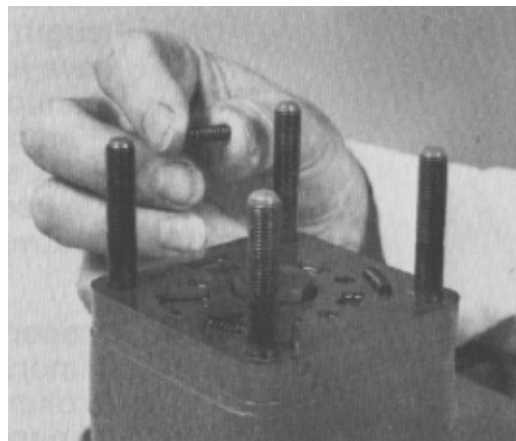

Figure 53
14. Remove three springs from the isolation manifold pockets (Fig. 53).